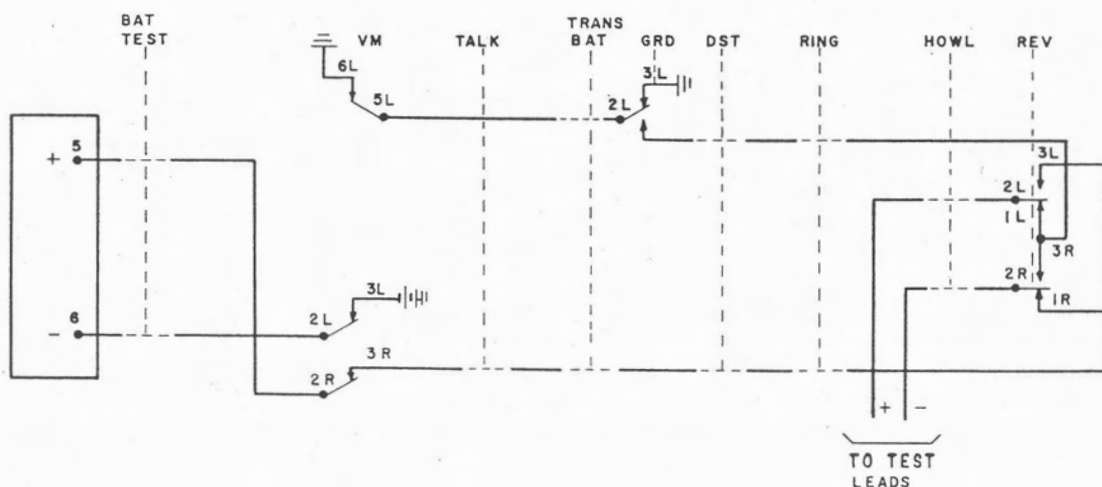

Figure 8. Test for ground (negative side of line).
3.4.3 Test for ground. Refer to figure 8. Operate the OUT key and the VM key. Then
4.7.4.1 Negative side of the line. Refer to figure 8. Entering the test circuit through the break contacts of the HOWL key the + and - lines will pass through break contacts of the REV and RING keys, unoperated, the break contacts of the DST key, unoperated, to the voltmeter circuit. At the voltmeter circuit the +line will end at spring 1L of the GRD key, operated. The -line will continue through break contacts of the TRANS BAT key through contacts 2R & 3R of the VM key, operated, to the +terminal of the voltmeter. The GRD key operated, will send a ground from springs 2L & 3L through break contacts of the TRANS BAT key, make contacts 5L & 6L of the VM key to positive battery. The VM key will send battery to the -terminal of the voltmeter. If ground is present on the line, the voltmeter will be deflected.